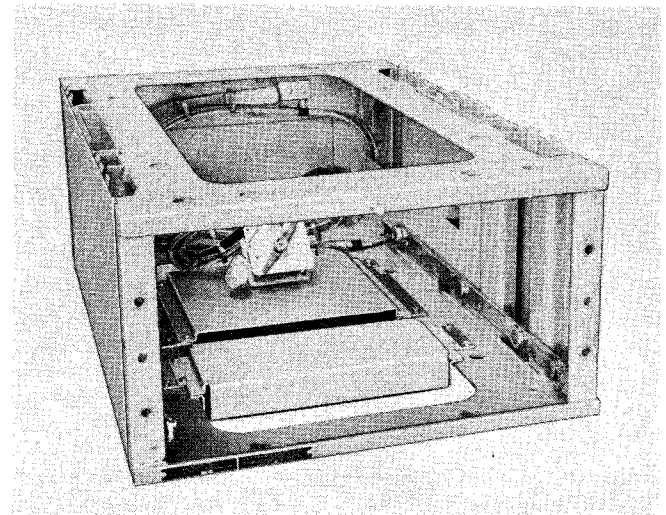

**Figure 1-15. Electrical Equipment Cabinet
(3) **ELECTRICAL EQUIPMENT CABINET CY-1572/SRT (HIGH LEVEL RADIO MODULATOR (HLRM) CABINET).** (See figure 1-15.)— This unit provides facilities for mounting the high level radio modulator (HLRM) chassis and for booster external connections. It consists of a rigid welded frame with sheet metal side and rear panels. A slide and rail arrangement allows easy insertion and removal of the high level radio modulator drawer. Ducts in the sides of the cabinet distribute the filtered forced air from the mounting to ventilate the HLRM chassis. Receptacles connected to the retractable cabinet wiring mate with the high level radio modulator chassis connectors. At the